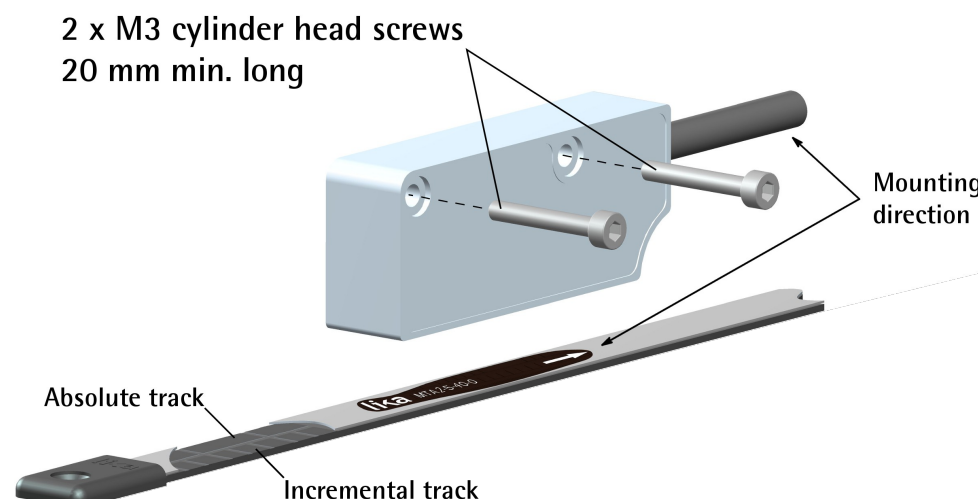

Figure 1
The Figure 1 shows how the sensor and the scale must be installed; please note that the MTA-A153 magnetic scale can be fitted with two tracks: an absolute track on one side and an incremental track on the other side. Thus you must strictly comply with the mounting direction!
The system cannot work if mounted otherwise than illustrated in Figure 1.
3.4 Measuring length (Figure 1)
The sensor area must always be fully within the limits of the tape magnetic surface, then the **maximum measuring length** is the maximum length of the tape minus the length of the sensor head (and further two safety sections at both ends each one being min. 2-pole pitch long). For instance: if the travel in your application is 5,000 mm / 196.85", then the length of the tape to be installed will be: 5,000 mm / 196.85" (measuring length ④) + 55 mm / 2.165" (length of the bottom of the readhead ③, see also the Figure 1) + 2 x 2 mm / 0.079" (the length of two pole pitches for safety reasons ②). If you install the optional tape terminals add 1 cm (0.4") ①. The sum of ① + ② must be doubled as it is intended for each end of the tape. The minimum length of the tape will be 5,063 mm / 201.331".
4.6 Standard counting direction (Figure 1)
The positive counting direction (count up information) is achieved when the sensor moves on the tape according to the white arrow shown in Figure 1. In the BiSS interface the counting direction can be set so that the count up information is provided when the sensor moves on the tape in the direction opposite to the one shown by the white arrow in Figure 1. For further information refer to the **Counting direction** parameter in the **Configuration** register on page 29. The counting direction cannot be changed in the SSI and Panasonic® RS-485 interfaces.